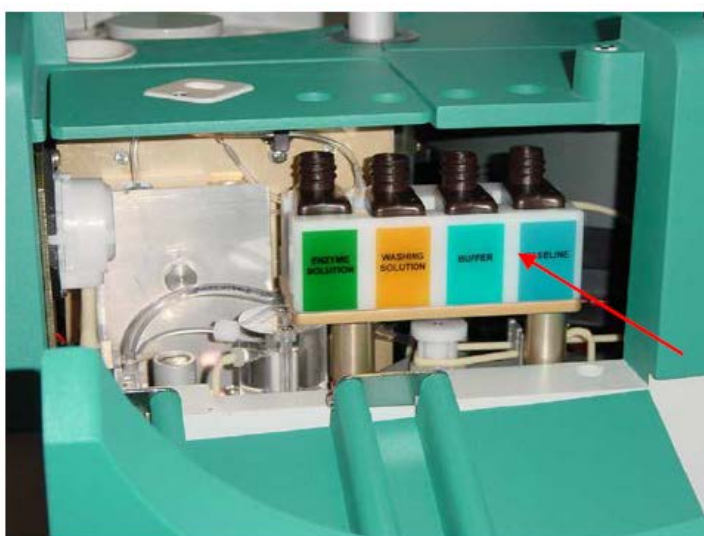

Figure 9
- a) Place the working solutions in their respective lodgings (**Figure 9; for BT 1500 8-1 - reference solution - and 9-1 – buffer and baseline**).